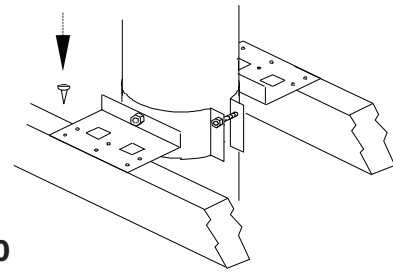

Figure 30
With the chimney extending through the opening in the roof, ceiling or floor proceed as follows (Refer to **Figures 30 & 31** for visual references):
- Step 4. Center the chimney and nail or screw the support to the roof or floor using (8) - 2-1/2" nails or (8) #8 - 1-1/4" wood screws (see **Figure 30**).
Refer to **Figures 30 & 31** for more information.